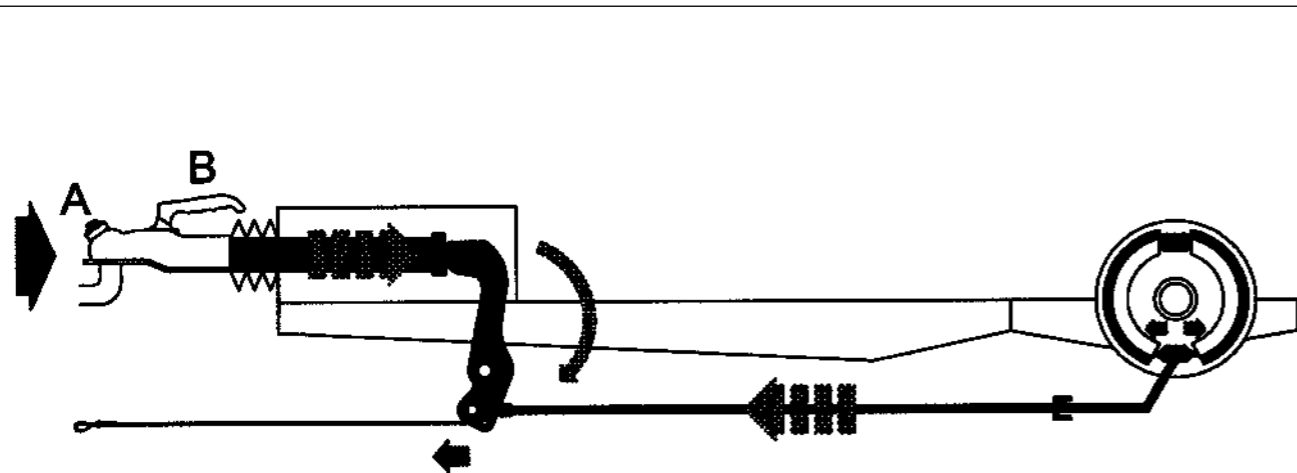

figure 02B
4. Place the opened coupling over the ball of the tow hitch and lower the coupling onto the tow hitch using the jockey wheel crank. At the same time, pull the coupling handle up and then release the handle (fig. 02B:B) when the coupling is resting on the tow ball. This should now slide back to the initial position automatically. Closing and latching occur automatically.
**N.B. Check via the latching post (fig. 02B-A).**